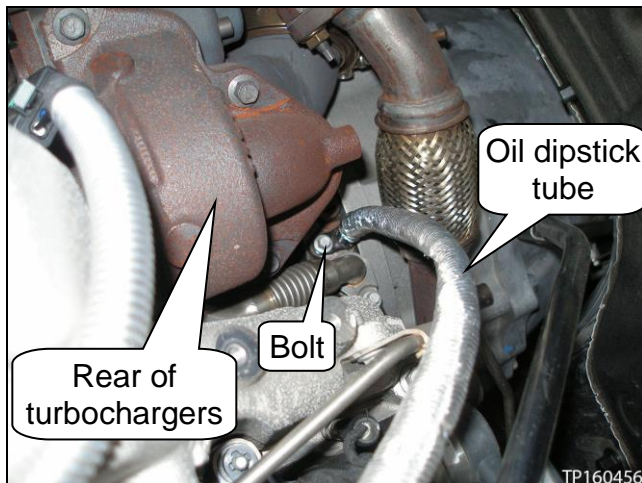

Figure 98
- f. When the oil dipstick tube is fitted correctly, install the bolt (see Figure 98).